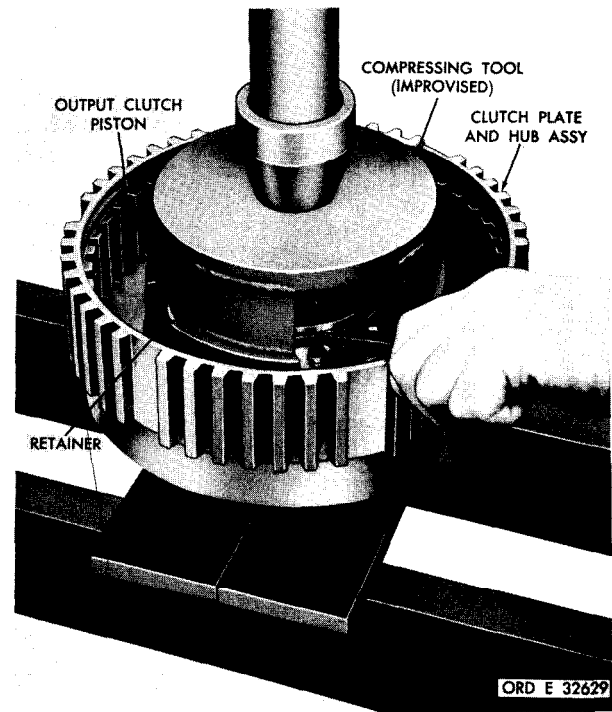

Figure 210. Removing (or installing) retaining ring for ~~ck2~~ piston return spring retainer
spring retainer, compress the springs and remove the retaining ring (fig. 210).
j. Turn the clutch plate and hub assembly over, and bump the clutch piston from the hub (fig. 210).
c. Install the clutch piston in the clutch plate and hub assembly (fig. 210).
ing tool (fig. 38) against the spring retainer, compress the piston return springs and install the retaining ring (fig. 210).